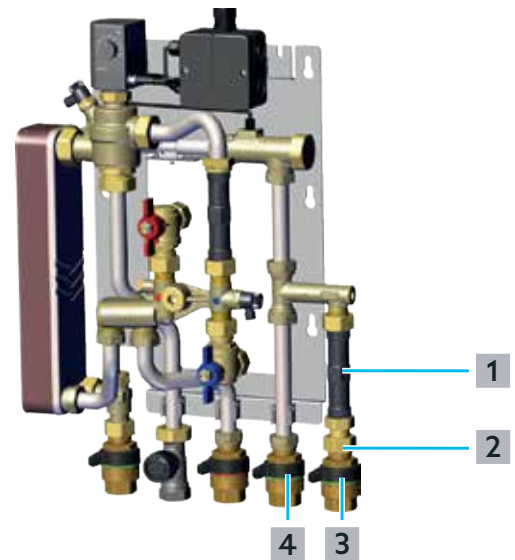

Fig. 11: Mounting the water meter
- 1 Close the ceramic disc valves in the cold water inlet ((3) in Fig. 11 on page 19) and cold water outlet (4).
- 4 Loosen the union nut of the coupling (2).
- 5 Remove the spacer (1) with the coupling from the pipe.
- 9 Slowly open the ceramic disc valves in the cold water outlet (4) and cold water inlet (3).